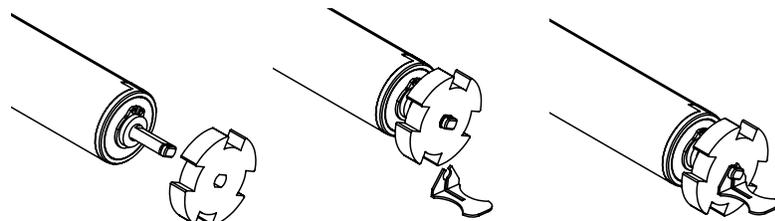

Figure 9. Slide the Driver on
Step 7. Slide the driver onto the end of the motor shaft. Then snap the drive retainer onto the motor shaft as shown in **Figure 9**.